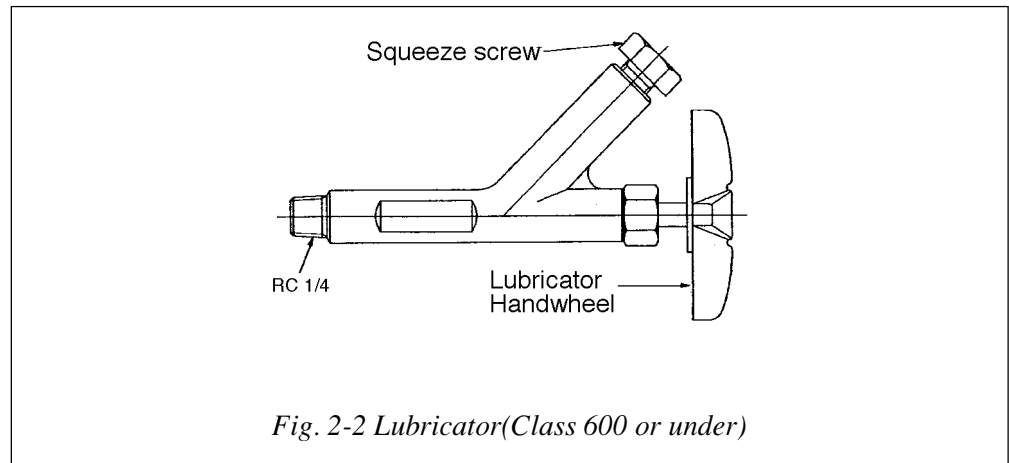

Fig. 2-2 Lubricator(Class 600 or under)
- (4) If the valve is provided with a lubricator as shown in Fig. 2-2, check whether the bonnet section has been lubricated or not. To do this, loosen the lubricator handwheel and turn the squeeze screw. If the squeeze screw turn lightly, and grease in the lubricating procedure mentioned below. (If the squeeze screw turns heavily, this means that grease has been applied.)